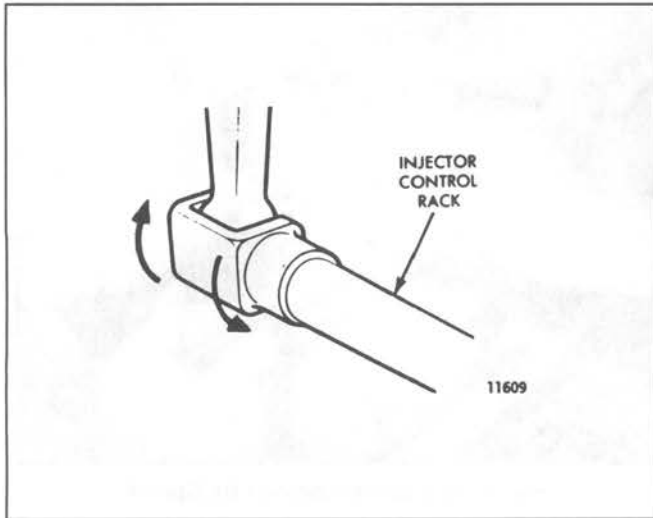
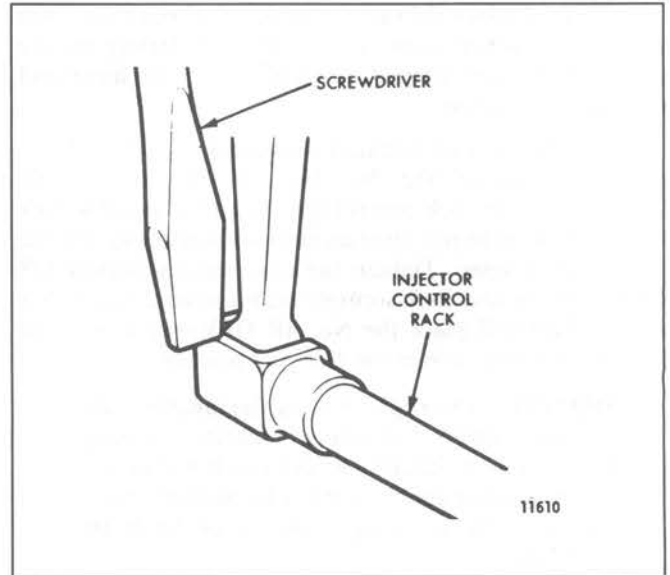

Fig. 5 - Checking Rotating Movement of Injector Control Rack
Fig. 6 - Checking Injector Control Rack "Spring"
- To be sure of the proper rack adjustment, hold the speed control lever in the *maximum speed* position and press down on the injector rack with a screwdriver or finger tip and note the "rotating" movement of the injector control rack (Fig. 5). Hold the speed control lever in the *maximum speed* position and, using a screwdriver, press downward on the injector control rack. The rack should tilt downward (Fig. 6) and, when the pressure of the screwdriver is released, the control rack should "spring" back upward.